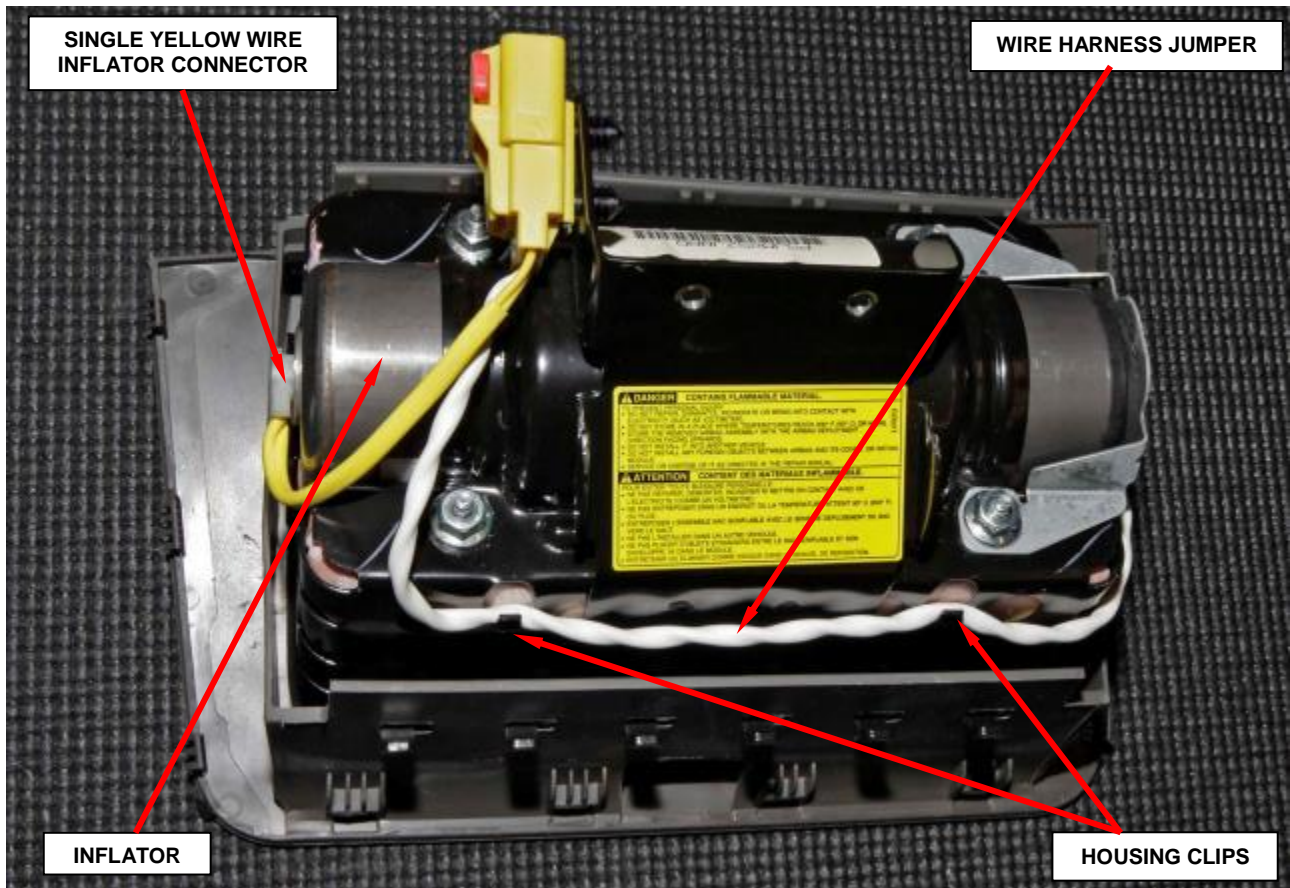

Figure 21 – Passenger Airbag Assembly
- b. Disengage the wire harness jumper from the housing clips in two places (Figure 21).
- c. Disconnect the single yellow wire inflator connector from the end of the inflator (Figure 21).